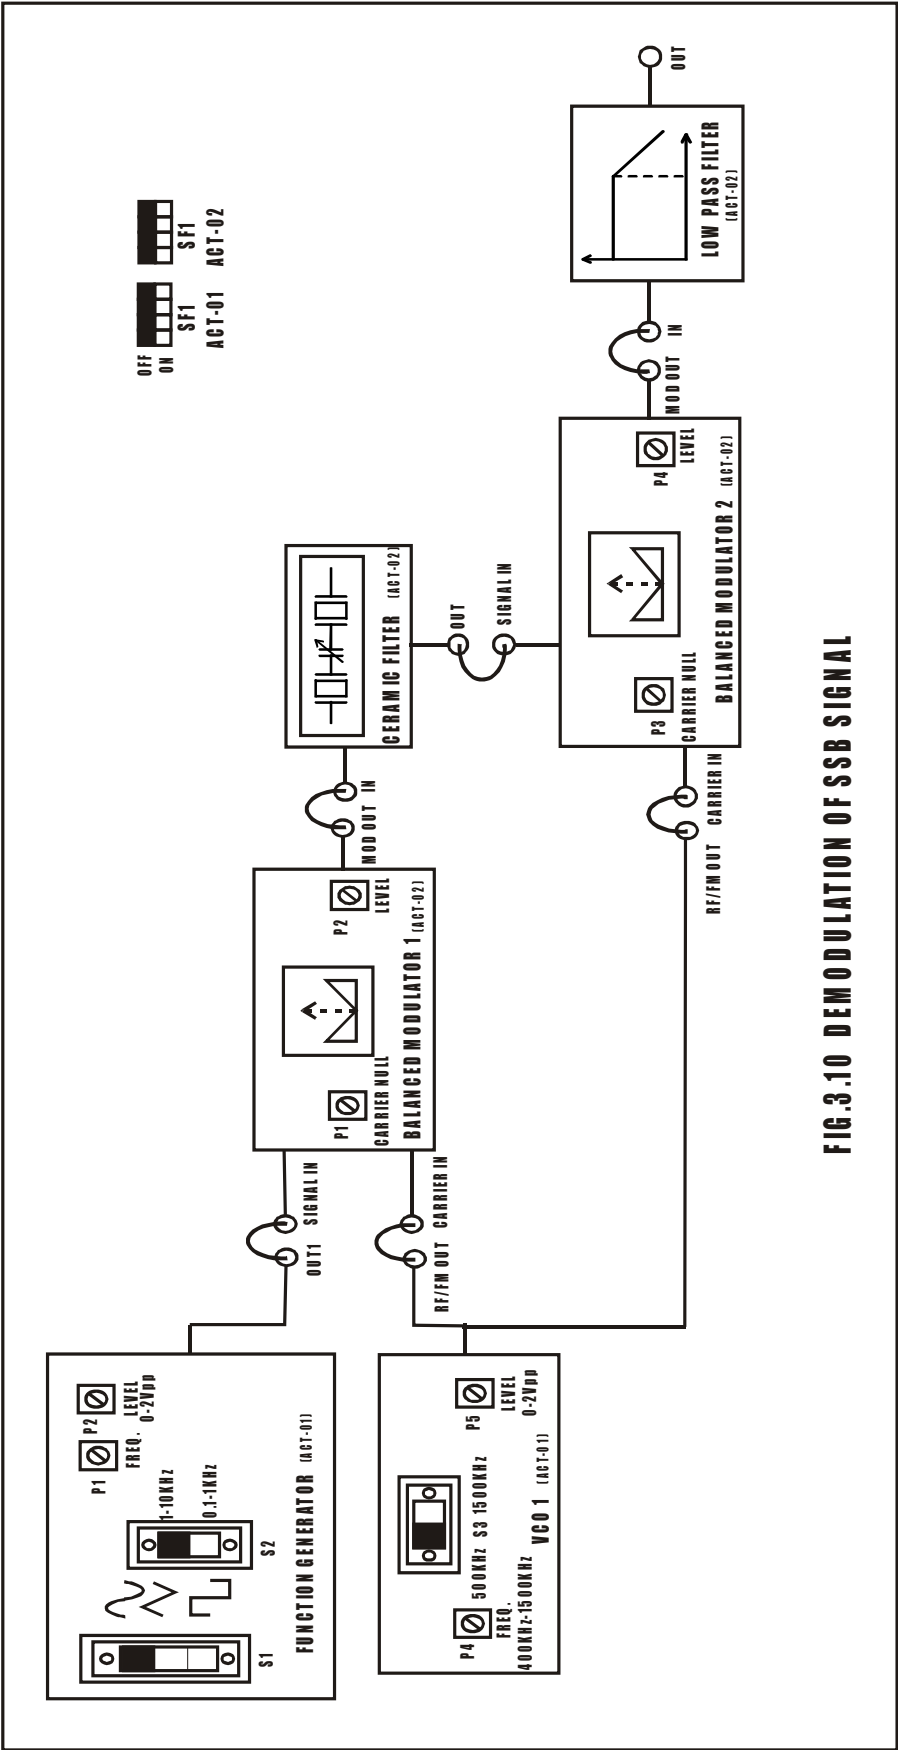

FIG.3.10 DEMODULATION OFSSB SIGNAL
- Refer to the fig.3.10 & Carry out the following connections and settings.